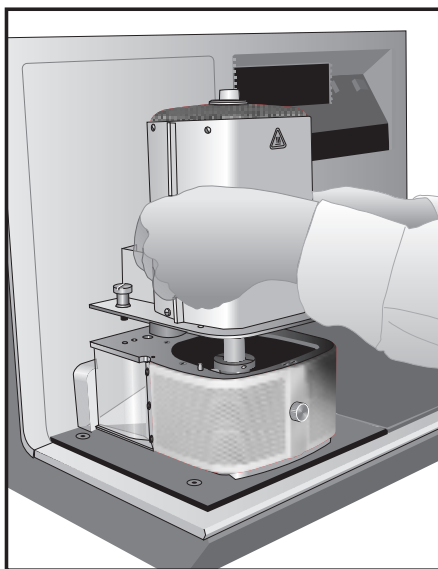

Figure DTA.14
2. Unscrew the two furnace assembly thumb-screws, and carefully lift the furnace off the furnace base. Lift the furnace straight up to avoid damaging the furnace tube (see Figure DTA.14).